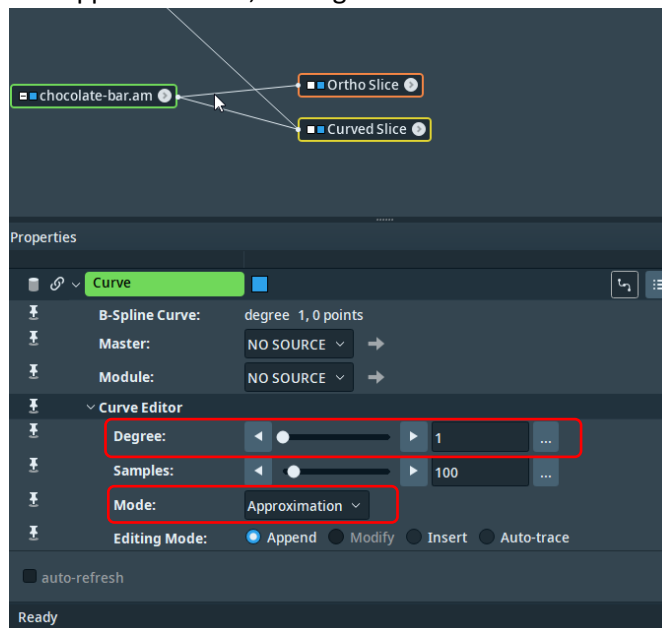

Figure 4
- set Mode to "Approximation", See Figure 4